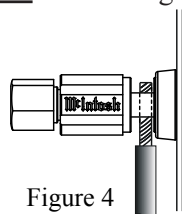

Figure 4
8. Connect the Loudspeaker hookup cables to the MC1502 Negative Output Terminal (-) and Positive Output (+) Terminal identified as 2Ω (ohms), 4Ω (ohms) or 8Ω (ohms) connection to match the impedance of the Loudspeaker, being careful to observe the correct polarities. Insert the spade lug connector or prepared section of the cable end into the terminal side access hole, and tighten the terminal cap until the cable is firmly clamped into the terminals so the lugs or wire cannot slip out. **Do not over tighten.** Refer to figures 4, 5 and figure E.